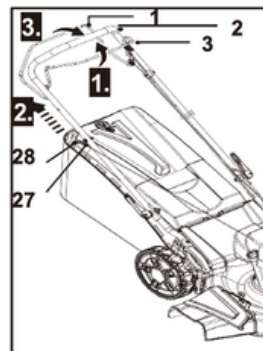

Fig. 22
1. Make sure the fuel valve lever is in the ON position (Fig. 22).
2. Stand behind the upper handle (2).
3. Pull the brake lever (3) and hold it against the upper handle (2) (Fig. 22, step 1).
4. Place the recoil starter handle (28) against the hook (27) located on the right side of the upper handle (2).
5. Pull the recoil starter handle (28) lightly until you feel resistance, then pull it quickly. Repeat until the engine starts (Fig. 22, step 2).
6. When you are ready to mow, press the self-propel lever (1) forward and hold it against the upper handle (2) (Fig. 22, step 3). The mower will move forward and begin mowing.